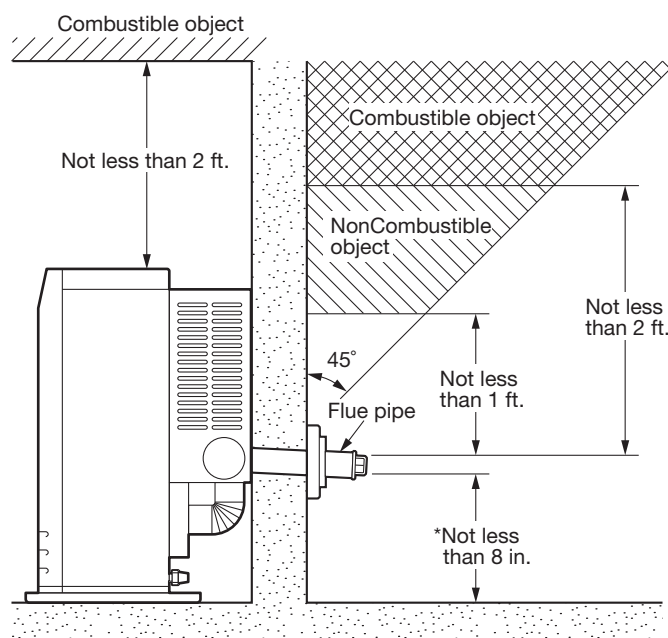

Fig. 2
①	Adjustable Exhaust Pipe Max. 39- ³ / ₈ ~ Min. 22- ⁷ / ₁₆	1
②	Intake Pipe (40 inch)	1
③	Insulating cloth cover (40 inch)	1
④	Pipe Holder	2
⑤	Pipe Support Hardware	2 sets
⑥	L-Shaped Exhaust Joint	1
When using the “Extension pipe (M)” extension kit, the distance between the heater exhaust pipe connection and the flue pipe connection must be at least 25-5/8 inch but no more than 42-1/2 inch. (See Figure 2 for reference.)
(See Fig. 2 & 3)
CAUTION! The standard flue pipe installation, as shown in Fig. 2, is for wall thickness from 4 in. to 9 in. ONLY.